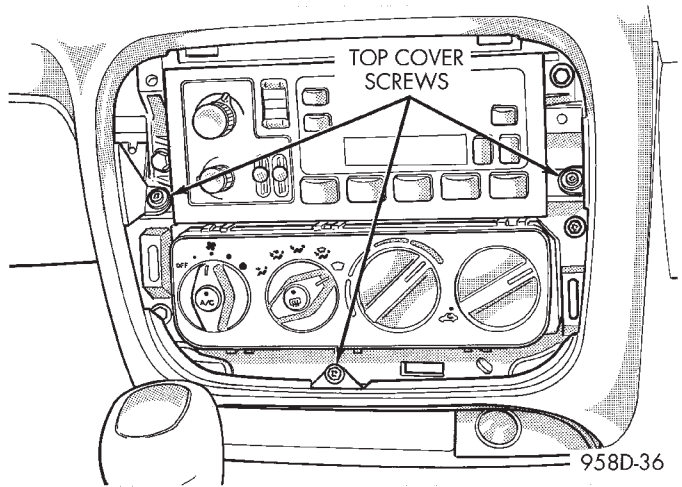

Fig. 6 Instrument Panel Top Cover Attaching Screws
(6) Remove the 3 screws attaching the top cover to the dash panel (Fig. 6).
(7) Remove the top cover from the dash panel. Removal of the top cover is required to gain access to